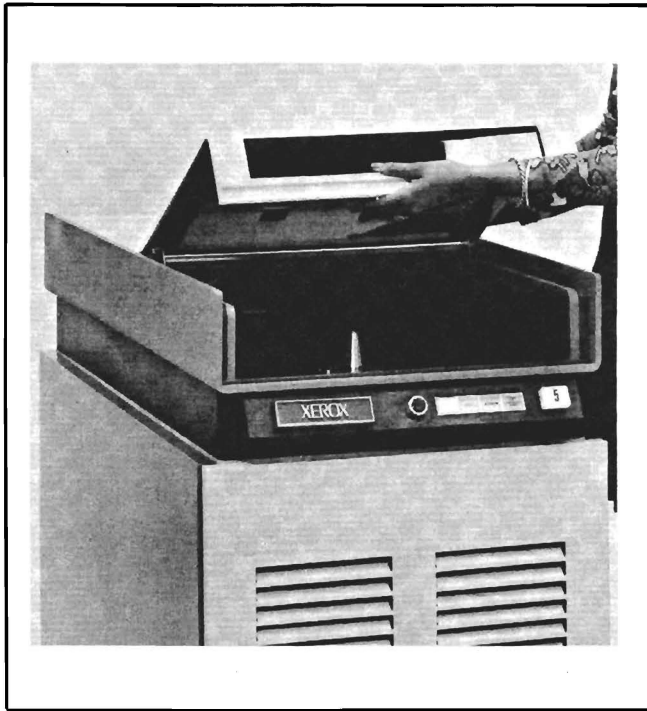

Figure 20. Opening Top Door on Disk Drive
1. Open the top door on the disk drive. A spindle lock mechanism will be activated when the door is opened. This locking mechanism holds the spindle stationary while the disk pack is being inserted (see Figure 20.)